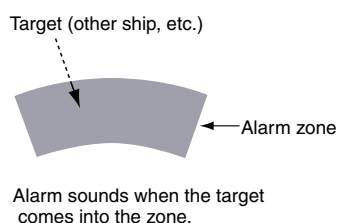

Fig. 3
- ① Push [MENU] to call up the FUNCTION menu.
- ② Push [v] until the "ZONE ALARM" section becomes highlighted.
- ③ Push [<] / [>] to select IN or OUT
- IN : Alarm sounds when the target comes into the zone. (Fig. 3)